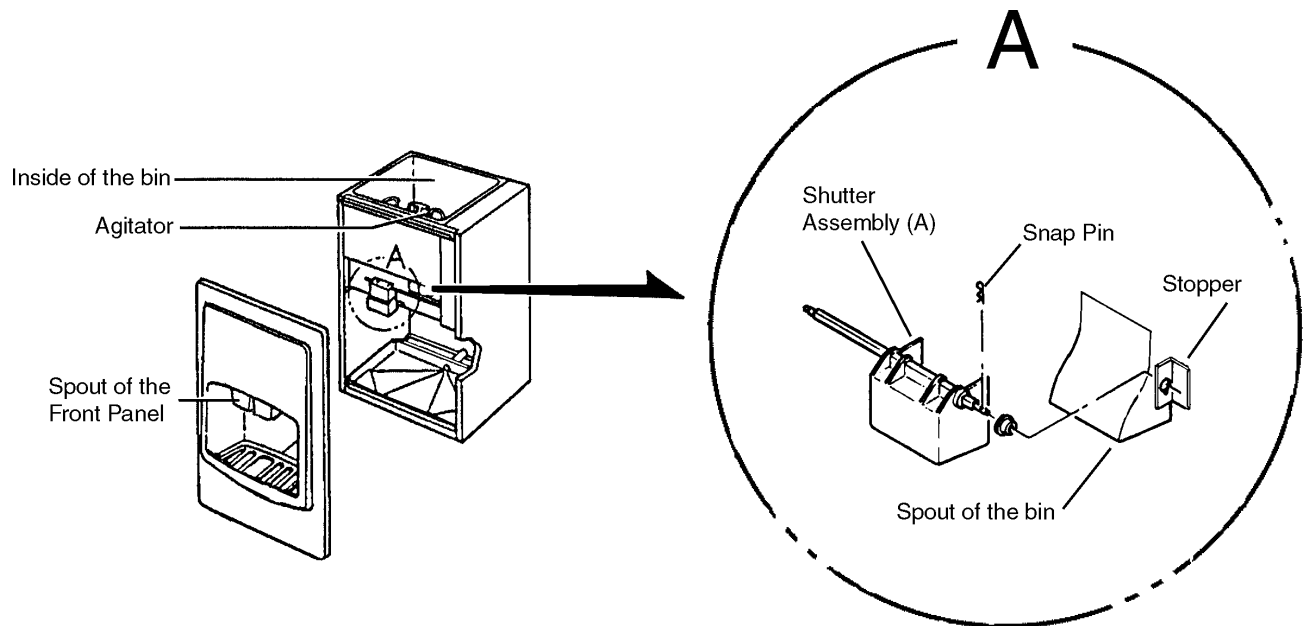

Fig. 7
[a] CLEANING PROCEDURE - See Fig. 7
- 6) Scrub the Shutter Assembly and the Spout using the cleaning solution made in step 5). See Fig 7.
- b) With snap pin removed, removal of Shutter Assembly (A) can now be accomplished.